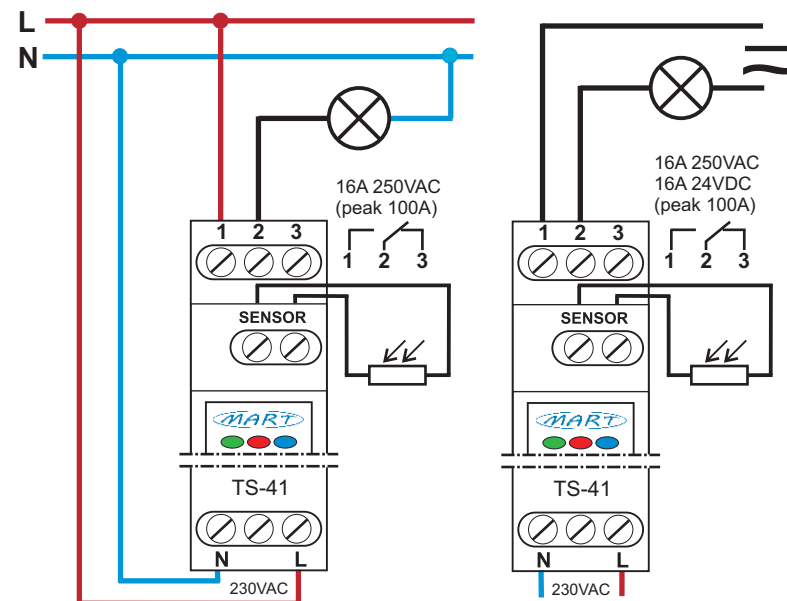

Fig. 2.: Connection diagrams for the TS-41-3 TWILIGHT SWITCH automatic device.
3. connect the wires in accordance with the diagram (fig. 2)